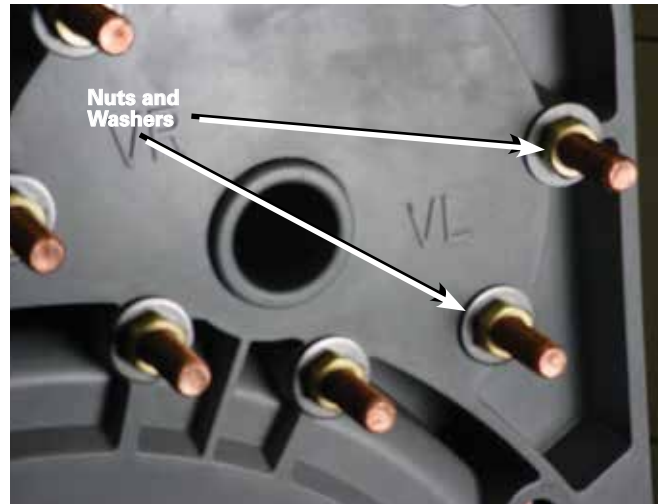

Figure 91. VL reversing stationary hardware.
- Place a flat washer and nut on each stud. Use a 9/16" socket and ratchet to tighten the nuts on each contact stud. Using a torque wrench tighten the nuts to a torque of 80–90 in-lbs (9.0–10.2 Nm). See Figures 91.